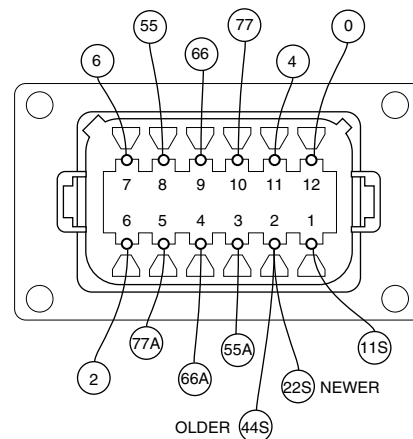

Figure 4-20. C1 Connector, Male Side
3. See **Figure 4-20**. Locate the male side of the connector located on the bottom of the control panel.
4. See **Figure 4-20**. Locate the male side of the connector located on the bottom of the control panel.
6. See Figure 4-20.
7. See Figure 4-20.
3. See Figure 4-20. Locate the male side of the connector located on the bottom of the control panel.
7. See Figure 4-20. Locate the male side of connector C1 located on the bottom of the control panel.